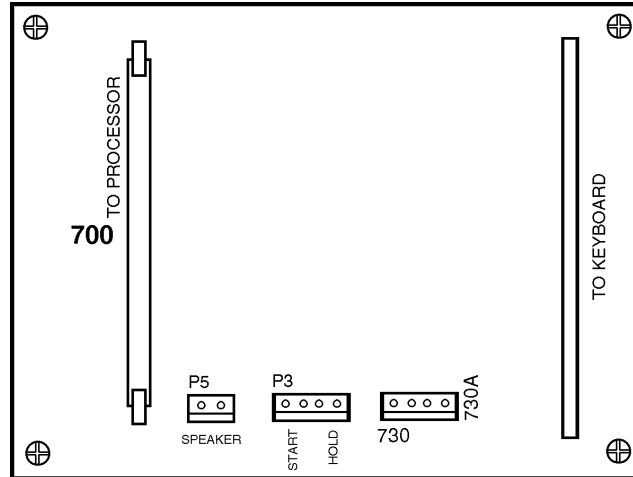

Fig. 4-10 Keyboard Interface board.
- Disconnect all leads to the Keyboard Interface (KBIF) board. Ensure all cables are properly labeled for reconnecting later. Refer to Fig. 4-10 for locations.